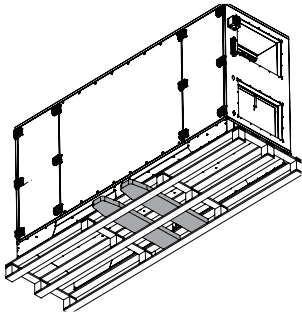

Fig. 3:
- If transported with a forklift, it should be ensured that the product is resting with the basic profile or base frame completely on the forks or on a pallet and the product's centre of gravity is between the forks (see Fig.3).